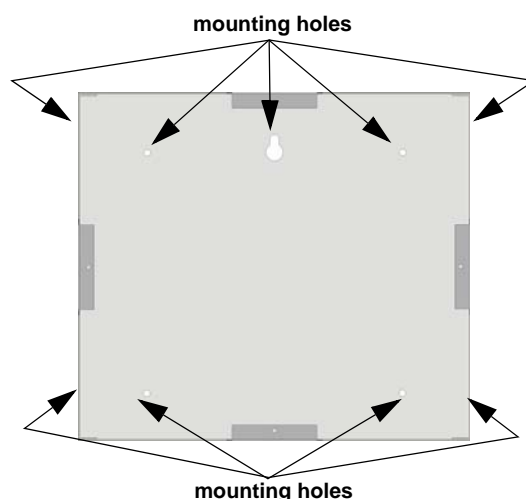

Figure 2: Backbox Mounting Holes
1. The backbox measures 9-1/4" W x 8-3/8" H. The backbox can be mounted prior to the complete installation of the RA-2000 using any of the mounting holes shown in Figure 2.